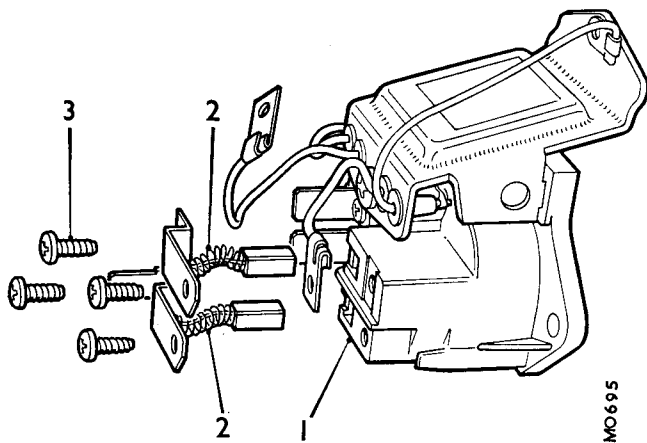

Fig. Nb.16
- (25) Check the brushes for wear by measuring the length of brush protruding beyond the brushbox moulding. If the length protruding is .2 in. (5 mm.) or less, the brush must be renewed.
- (26) Check that the brushes move freely in their holders. If a brush shows a tendency to stick, clean it with a petrol- (gasoline-)moistened cloth or, if necessary polish the sides of the brush with a fine file.
- (27) Check the brush spring pressure using a push-type spring gauge. The gauge should register 7 to 10 oz. (198 to 283 gm.) when the brush is pushed back until its face is flush with the housing. If the gauge reading is outside the limits given, renew the brush assembly, as shown in Fig. Nb.16.